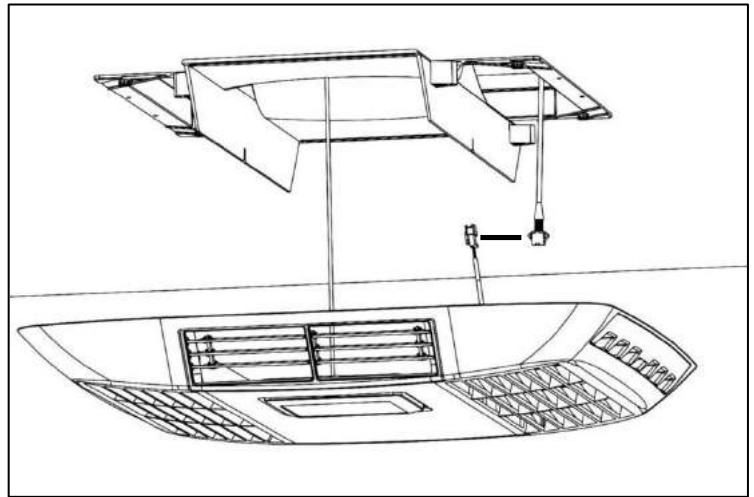

Fig 14: Attaching the suspension cord will allow two hands free to plug in the control cable and affix the plenum
-This will allow you to use two hands to connect the control cable (see Fig 14).